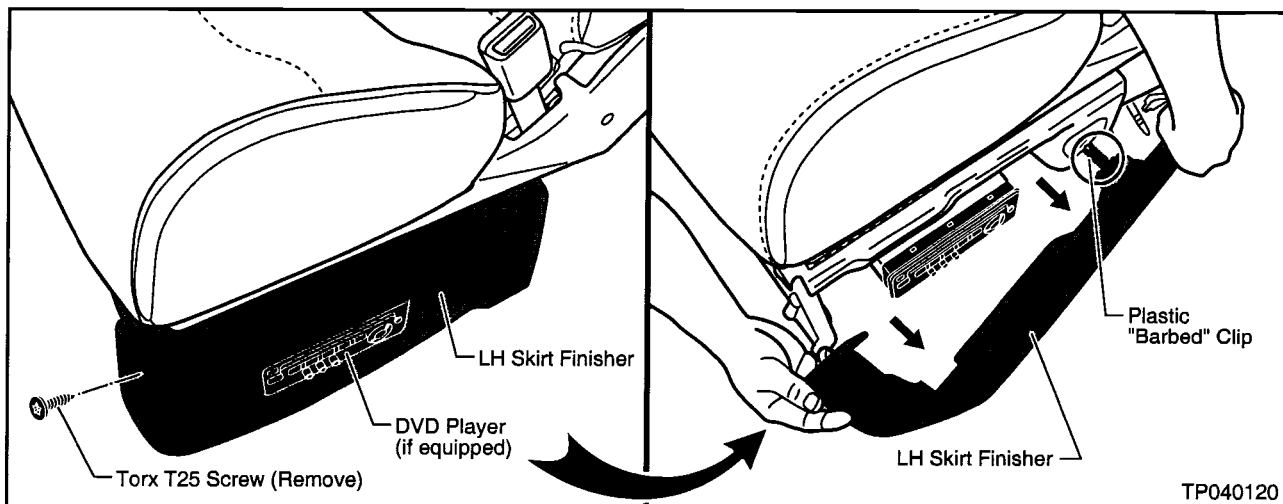

Figure 5
a. Use a Torx T25 to remove the Screw at the front end of the Finisher (see Figure 5).
b. Carefully pull out (towards the inside of the vehicle) on the Finisher to release any securing clips (see Figure 5).